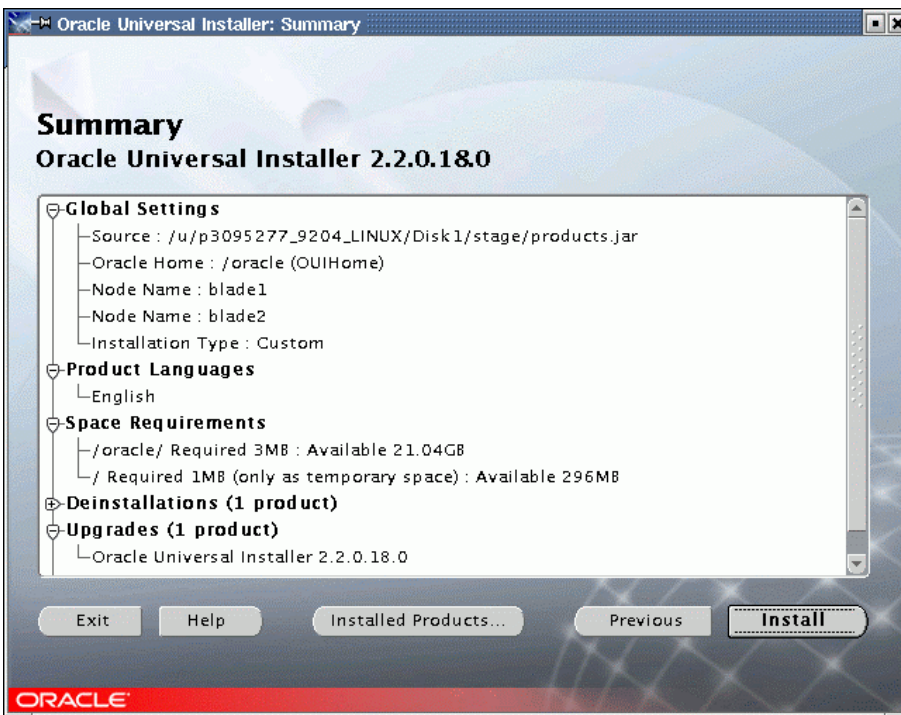

Figure 57. Summary
- A Summary screen is displayed (Figure 57). Click **Install** to begin the installation.